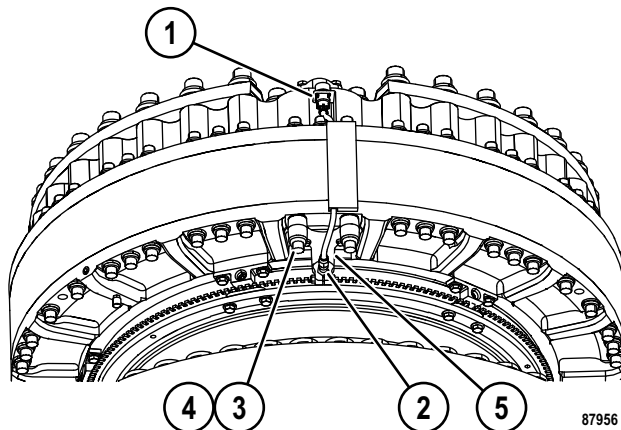

FIGURE 50-98. WHEEL SPEED SENSOR REMOVAL & INSTALLATION
48. Install wheel speed sensor (2, Figure 50-98) in sensor bracket (5). Tighten capscrews (3) and flat washers (4) to the standard torque. Connect the sensor cable to cable bracket (1).